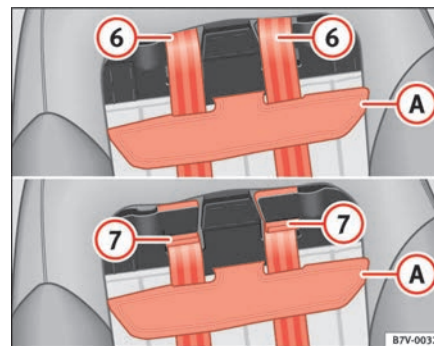

Fig. 36 Integrated child seats, adjusting the belt routing
- Pull the upper part ⇒ fig. 36 ① of the support off the Velcro fasteners to the front.
- For larger children, guide the two shoulder belts in the side slots to the upper position ⑥.
- Then push the support ① under the belts and secure it ⇒ ⚠.
The support ⇒ fig. 36 ① must be pressed onto the seat in the area of the Velcro fastener in such a way that the belts can move freely in the slots. ■